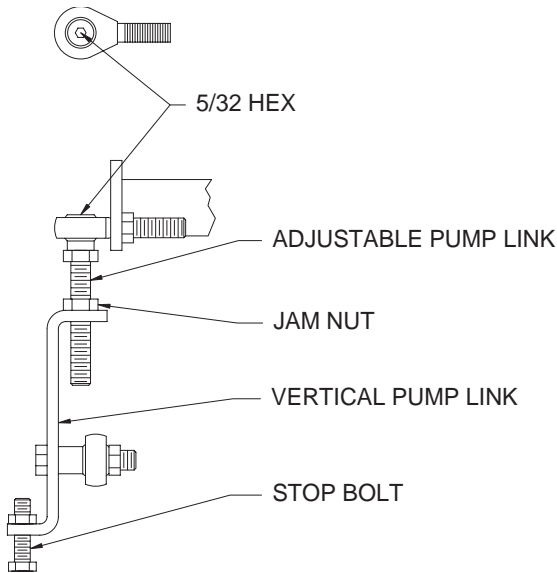

Fig. 3 - Neutral link area of pump
3. Stop engine, place park lever into park position, flip up seat, and loosen jam nut on adjustable pump link (fig. 3) on the same side as the wheel that creeps (rotates). With a 5/32" Hex Allen Wrench, adjust pump link from the top. For a wheel that is rotating forward turn the wrench clockwise – for a wheel that rotates in reverse motion turn wrench counter-clockwise. Never adjust link more than 2 full turns at any one time. Retighten jam nut and start engine.
3. Full speed tracking is determined by the stop bolts at the bottom of each vertical pump link (see fig. 3). You may speed up or slow down a fast or slow pump motor by either shortening or lengthening the stop bolt.
Wheels should not rotate. If one or both rear wheels are turning, perform procedures under "Neutral Adjustments" for side(s) that wheel turns (fig. 3).